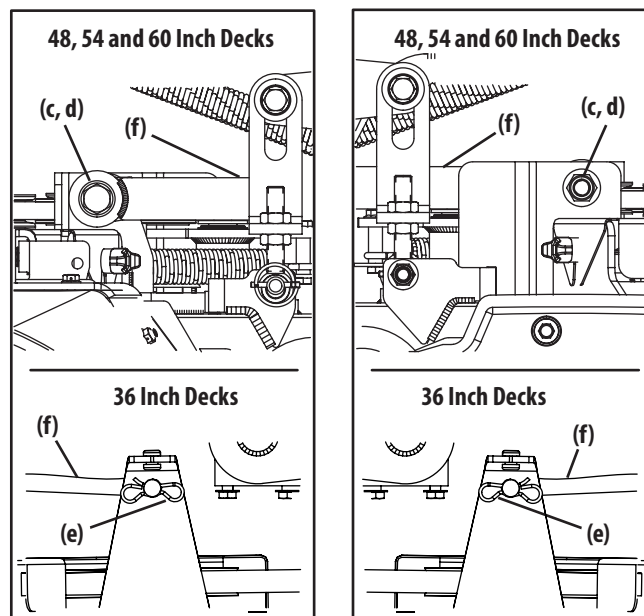

Figure 37
- Remove the hex screws (c) flange lock nuts (d) (48, 54, and 60 inch decks) or the bow tie clips (e) (36 inch decks) securing the front deck control rods (f) to the deck (Figure 37).